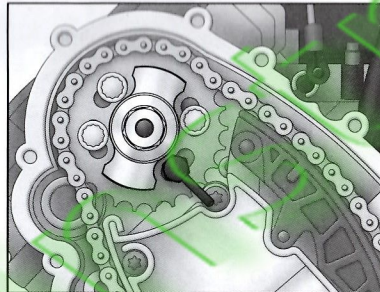

Fig.31
- (4) Reinstall Camshaft Locking Pin (Part No.D).
- (5) Fit the tensioner using new tensioner bolts and tighten to 5Nm + 90°. Fit three camshaft sprocket bolts by finger tighten only, ensuring it is possible for the camshaft sprocket to rotate on the camshaft for adjustment. (Fig.31)